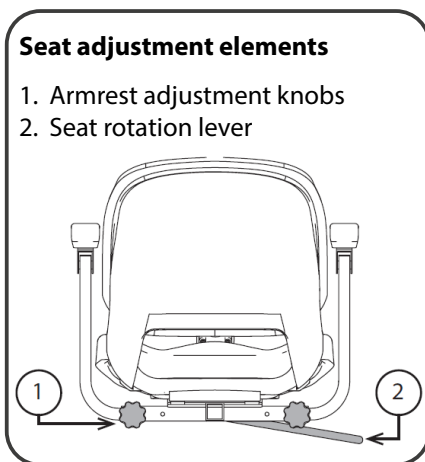

Figure 5. Seat adjustment
The seat rotation lever ② located on the right side of the base, secures the seat in several positions. See Figure 5.
1. Pull the seat rotation lever ② to unlock the seat.
1. Loosen the armrest adjustment knobs ① - Figure 5.